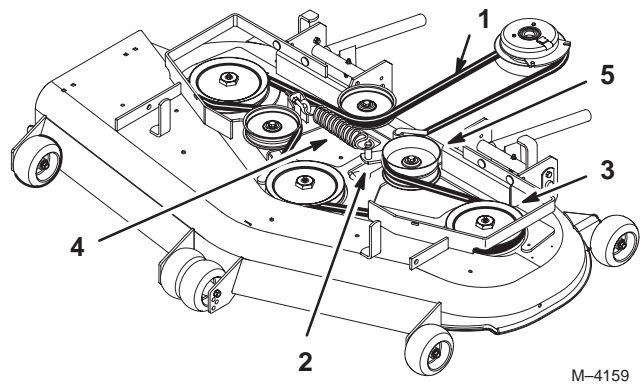

Figure 56
4. Remove the belt. Start at the outside pulley and rotate the belt off (Fig. 56).
7. Install the idler pulley and route the belt onto the other pulleys (Fig. 56).